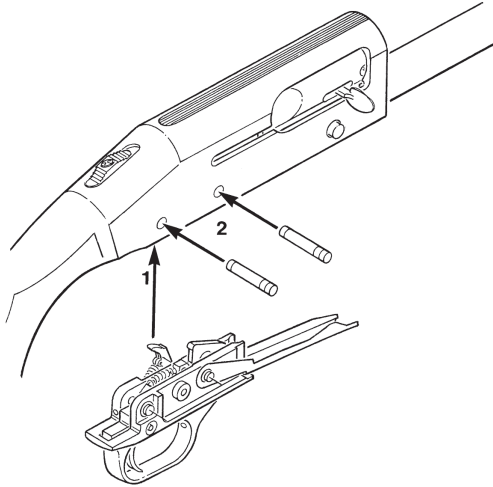

Figure 15
1. Insert the trigger housing assembly into the receiver and align the two trigger housing retaining pin holes (Figure 15).